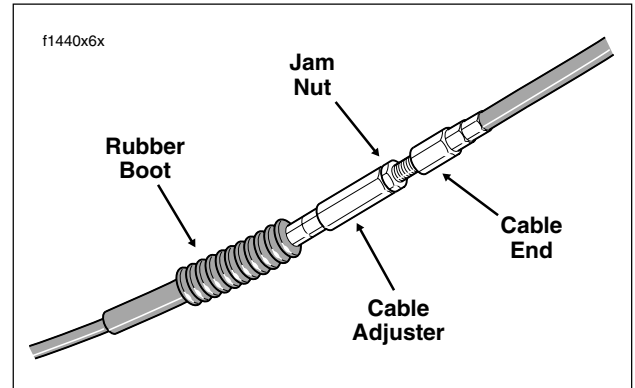

Figure 6-6. Clutch Cable Adjuster Mechanism
3. See Figure 6-6. Slide rubber boot off cable adjuster. Holding cable adjuster with 1/2 inch wrench, loosen jam nut using a 9/16 inch wrench. Back jam nut away from cable adjuster. Move adjuster toward jam nut to introduce a large amount of free play at hand lever.